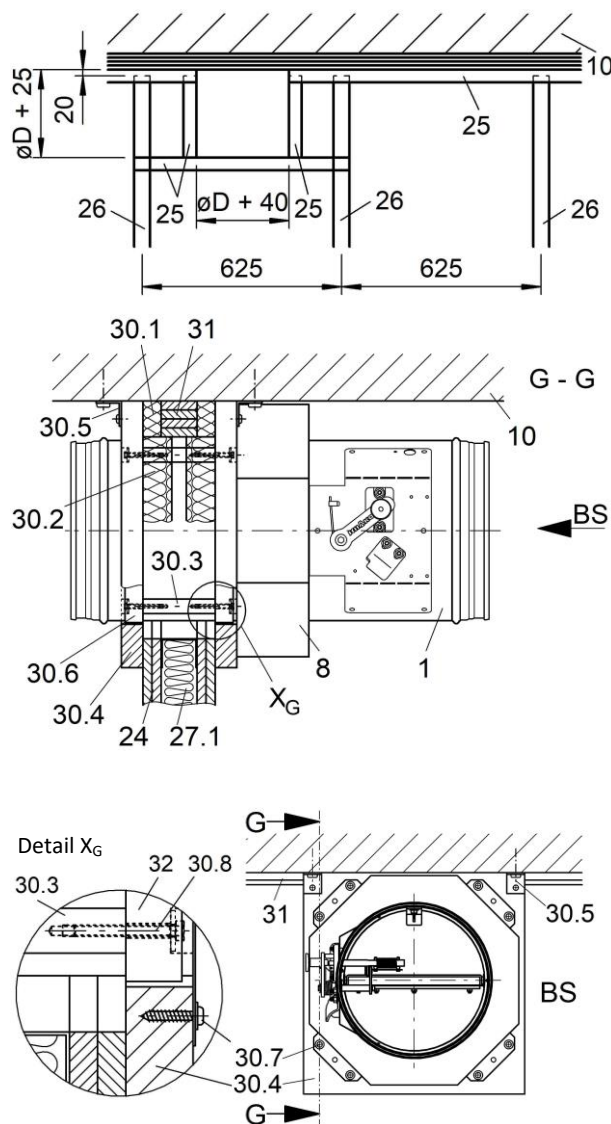

Figure 48: Installation kit GDL for installation in lightweight partition walls with metal posts and panelling on both sides with sliding ceiling connection
- Mount the ceiling connection strips (pos. 31) for the sliding ceiling connection under the solid ceiling (pos. 10). Mount the metal posts and the wall in accordance with the specifications of the wall manufacturer and the required exchange parts as shown on Figure 48. In the area of the sliding ceiling connection, the exchange parts and CW-profiles (pos. 26) have been mounted loosely. In the ceiling profile (UW-profile) (pos. 25), a recess (width $b = \varnothing D + 40$ mm) must be made in the area of the BSK-RPR (pos. 1).
- Mount the wall panellings on both sides (pos. 24) and provide an installation opening.
- In the area of the installation opening, on both sides of the ceiling connection strips (pos. 31), attach the mineral wool strip (pos. 30.1, dimension $b = 50 \times d = 25$ mm).
- The baffle plate (pos. 30.4) to which previously two suspension brackets (pos. 30.5) and four spacers (pos. 30.3)